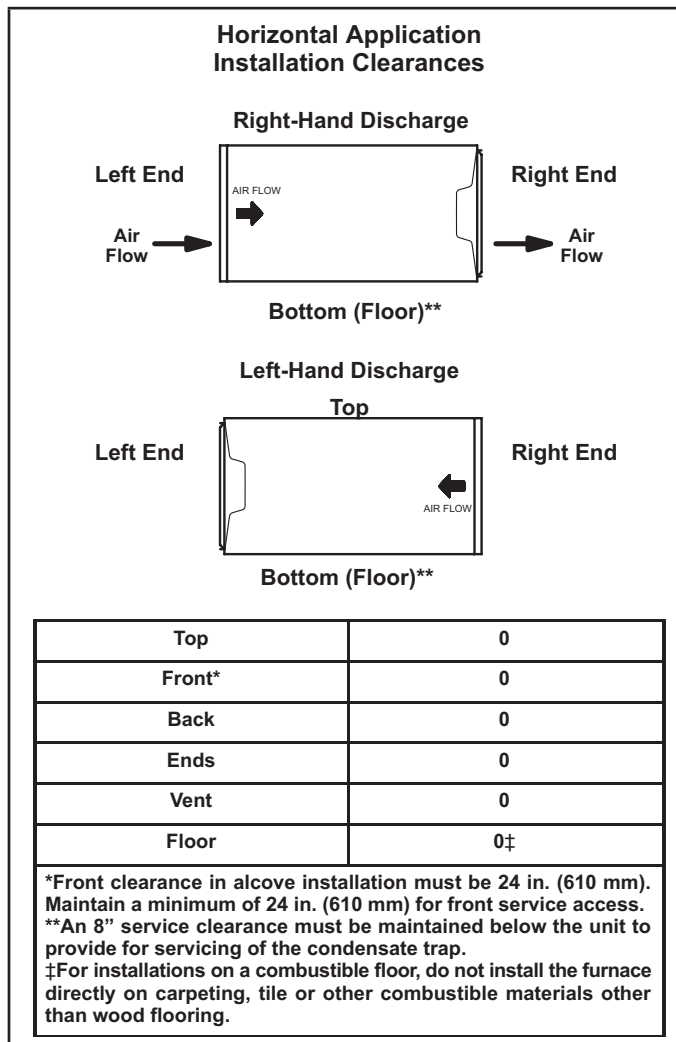

Figure 17
The EL296UHV furnace can be installed in horizontal applications with either right- or left-hand air discharge. Refer to Figure 17 for clearances in horizontal applications.
- 1 - Select location for unit keeping in mind service and other necessary clearances. See Figure 17.